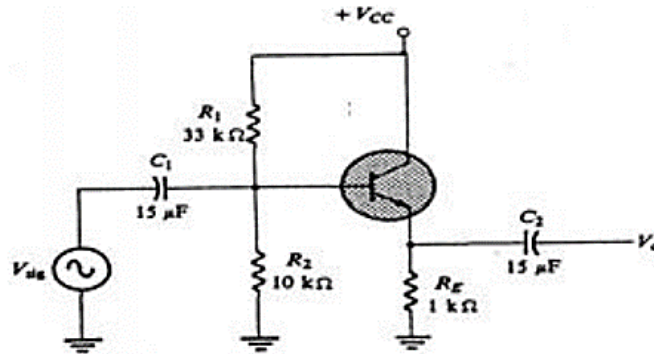

Figure 3: Emitter-Follower CC amplifier circuit for implementation
- Implement the circuit shown in Figure 3 using 2N3904 BJT model and supply of 10V.